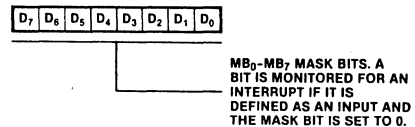

Figure 12: PIO Mask Control Word
**Mask Control Word (Figure 12).** This word sets the mask control register, thus allowing any unused bits to be masked off. If any bits are to be masked, then bit D4 of the interrupt Control Word must be set. When bit D4 of the Interrupt Control Word is set, then the next word programmed must be the Mask Control Word. To mask an input bit, the corresponding Mask Control Word bit must be a "1".